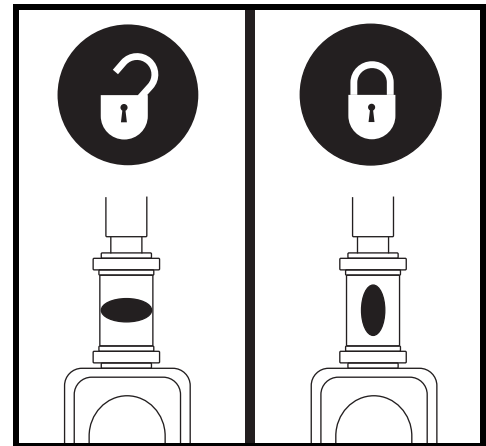

Figure 25. Tiller Lock Knob
2. Lock the tiller in the straight ahead position by pushing the tiller lock knob in and turning it clockwise 90°. See **figure 25**. The front wheel must face forward in order to lock the tiller.
1. Remove the key from the key switch and then lock the tiller in the straight ahead position by pushing the tiller lock knob in and turning it clockwise 90°. See **figure 25**. The front wheel must face forward in order to lock the tiller.
6. Unlock the tiller by turning the tiller lock knob 90° counterclockwise. See **figure 25**.